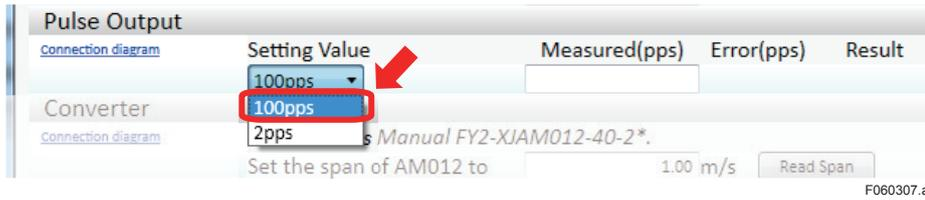

Figure 6.3.7 “Setting Value” in “Pulse Output”
- 2) Select “100 pps” in “Setting Value”. See **Figure 6.3.7**.